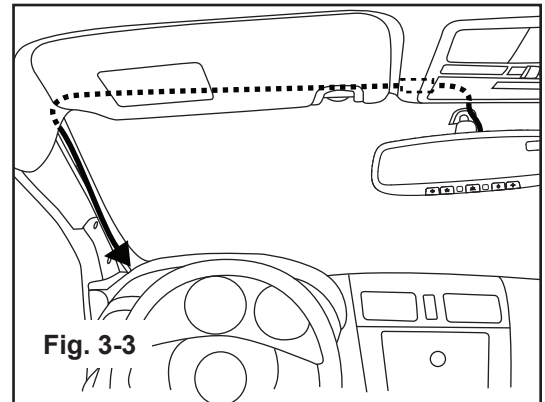

Fig. 3-3
- a) Route EC harness between vehicle headliner and roof to top of driver-side A-pillar area. (Fig. 3-3)